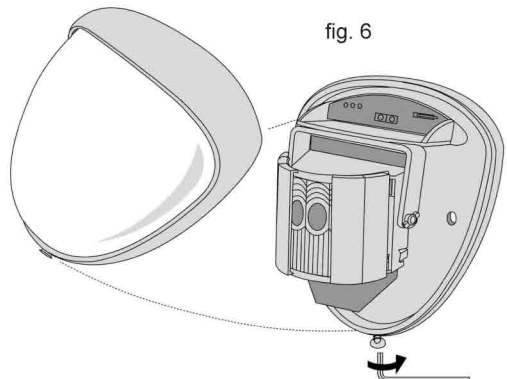

fig. 6
- 5) When the detector has been aligned to suit the installation, replace the front cover and lock as shown. **See fig. 6.**